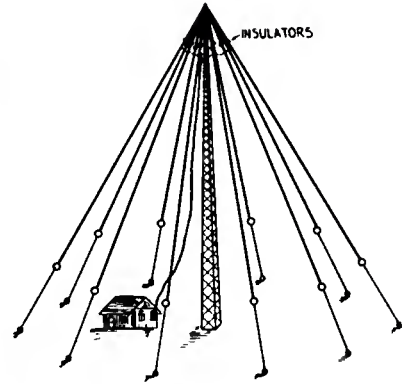

Figure 110
- (2) Figure 110. To show the construction of the umbrella aerial.
The **umbrella aerial** shown in figure 110 receives its name from its general shape and similarity to an umbrella. A number of wires spread radially in several directions from a common center at the top of the mast. The lead-in wires are attached to the top wires of the ribs. The ribs of the umbrella are about two-thirds the height of the mast, but the guying out wires must be from 6 to 7 times the length of the downward wires.